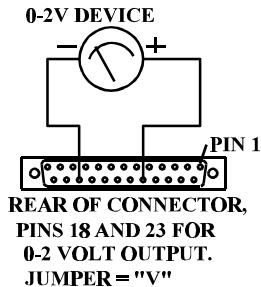

Figure 1
- 0-2 volt devices connect as shown in Figure 1. If the instrument includes an option board, be sure its analog jumper (SW101) is set to the "V" position.